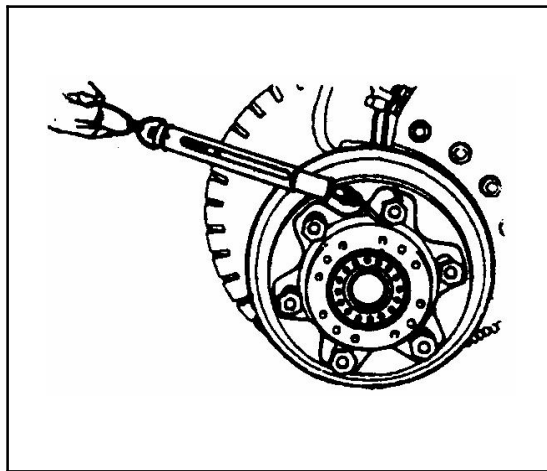

Figure5-6
- 7) Rotate the front and back of the wheel 2-3 turns respectively to check whether the rotation starting tension meets the standard; Rotation starting force: 10N ~ 29N. (See Figure 5-6.)